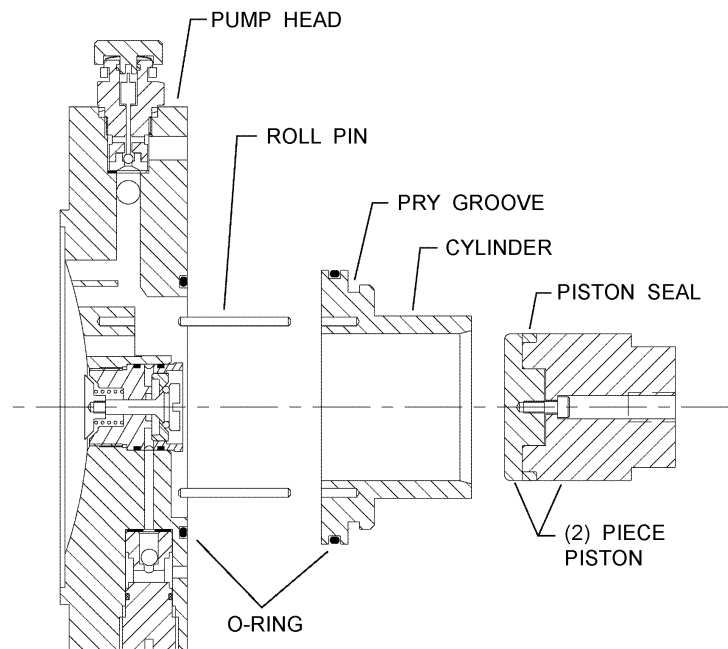

Figure 19
4. The cylinder is retained to the pumphead by two roll pins. Separate the cylinder by prying on the groove above the o-ring (refer to **Figure 19**).